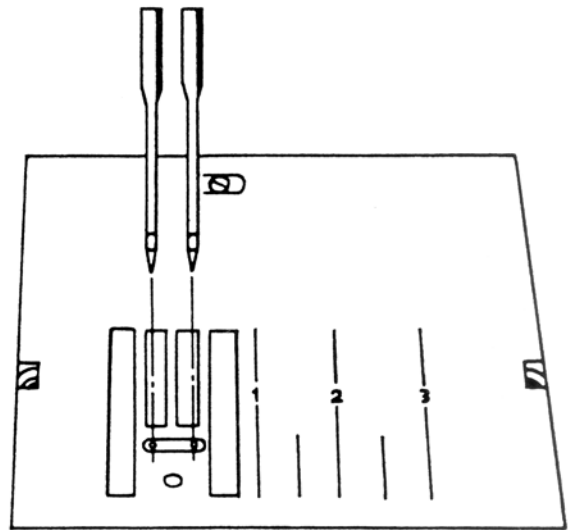

Fig. 27
The widest zigzag stitches must be the same distance from the left and right needle hole edges (fig 27.).
- Turn the handwheel and check the left and right distance (fig. 27).